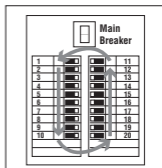

Figure 4
5. Slide the nose of the receiver along the outer edge of each row of breakers using a racetrack pattern as shown (Figure 4).